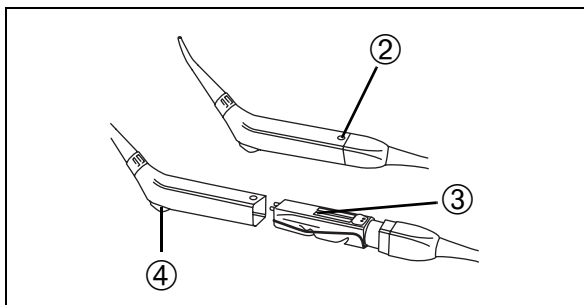

Fig. 24
- Press the locking button ② (Fig. 24) in order to remove the handle sleeve at the end of the supply hose.